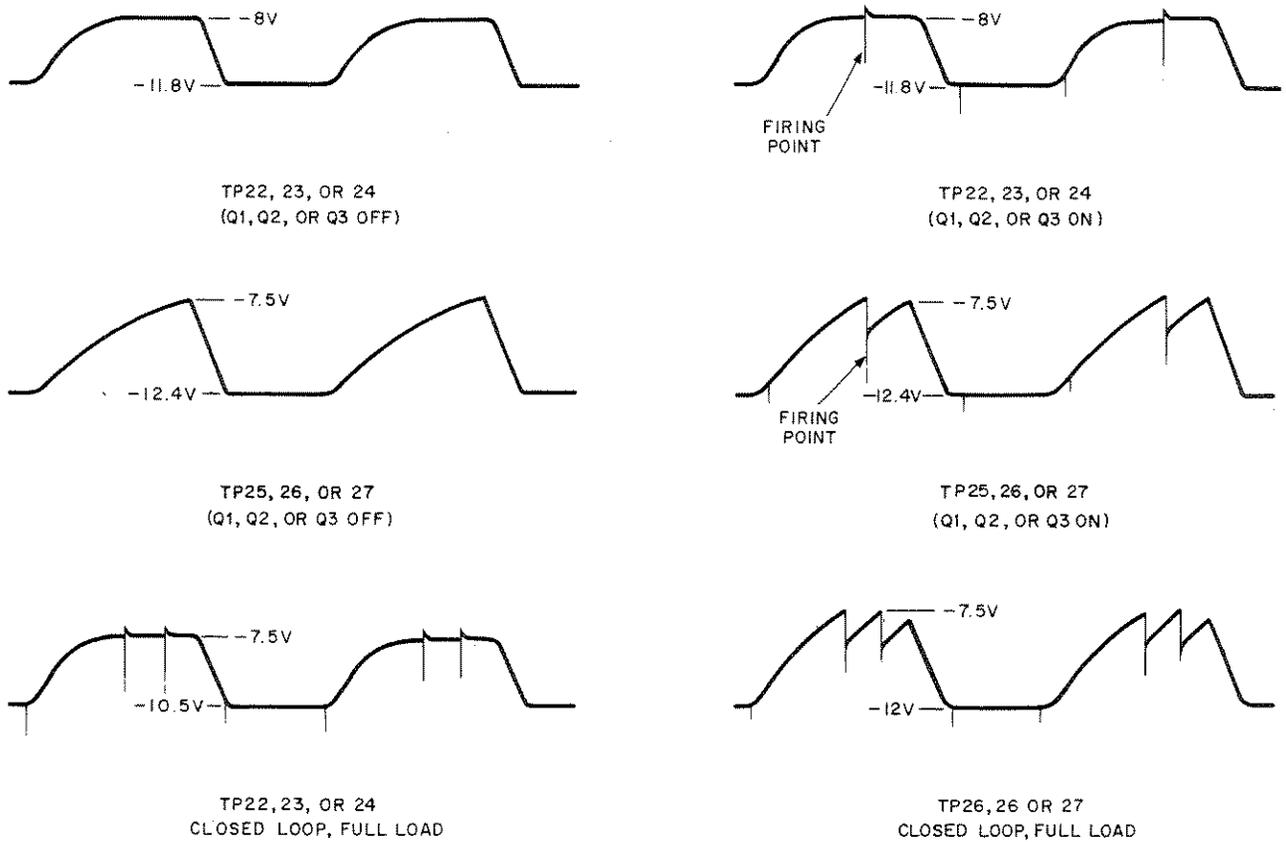

Figure 7-6. Firing Circuit Waveforms
b. Firing circuit waveforms (Figure 7-6), showing the waveforms found at various points in the firing circuit.